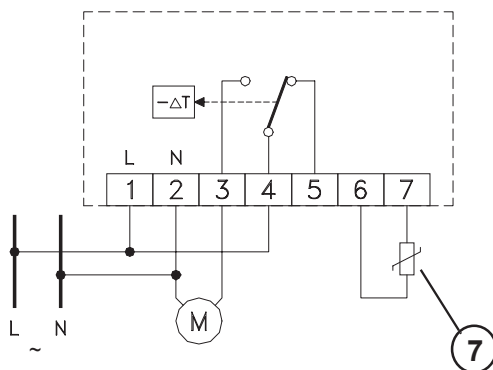
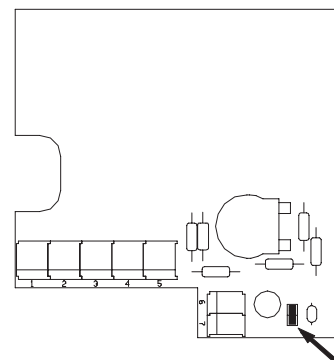

Fig. 5
Fig. 6
3. Eseguire i collegamenti elettrici seguendo lo schema di Fig. 5.
Per collegare al termostato, in alternativa alla sonda interna una sonda a distanza (7), estrarre il ponticello sulla scheda del termostato, posto in basso a destra sotto la manopola di regolazione (Fig. 6), quindi collegare ai morsetti 6 e 7 la sonda remota come da schema (Fig. 5).
1. Remove plastic cover by moving to the inner side, through the use of a tool, the two plastic teeth (3) located on the right side of the thermostat.
3. Make electrical wirings according to the diagram of Fig. 5.
In order to connect to thermostat a remote sensor (7) alternative to the internal one, follow diagram in Fig. 5 and remove the jumper on the thermostat board (Fig. 6), which is located in the bottom right side of the thermostat, underneath the set-point knob.